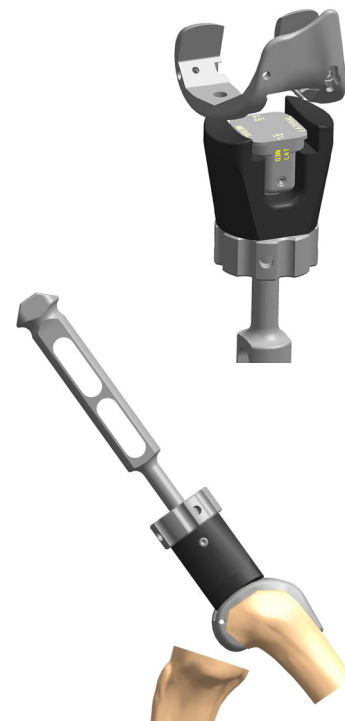

Figure 40
3. Impact on the angled surface of the Femoral Trial Impactor to rotate the Femoral Trial from posterior to anterior until the distal surface is completely flush with the distal resection (Figure 40).